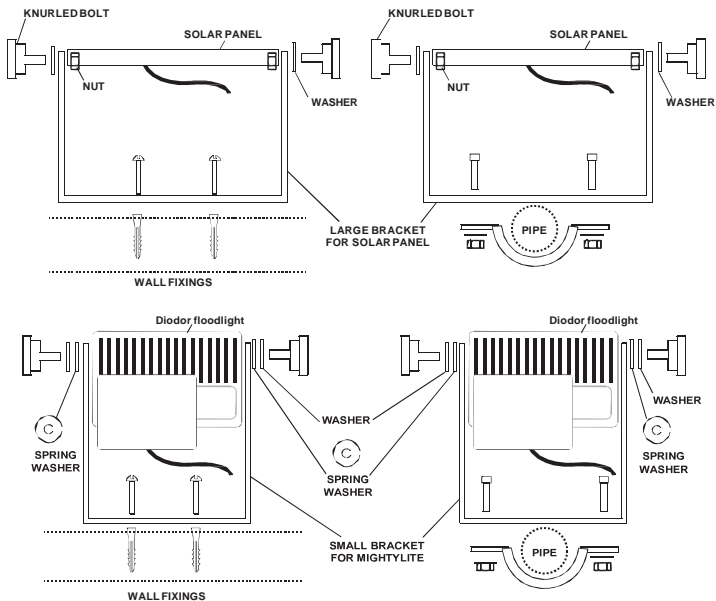

FIGURE 1
- 10) Install the Diodor LED Solar Floodlight fitting on to the bracket using the knurled bolts provided. Position the light fitting for optimum PIR coverage (See Fig. 1)